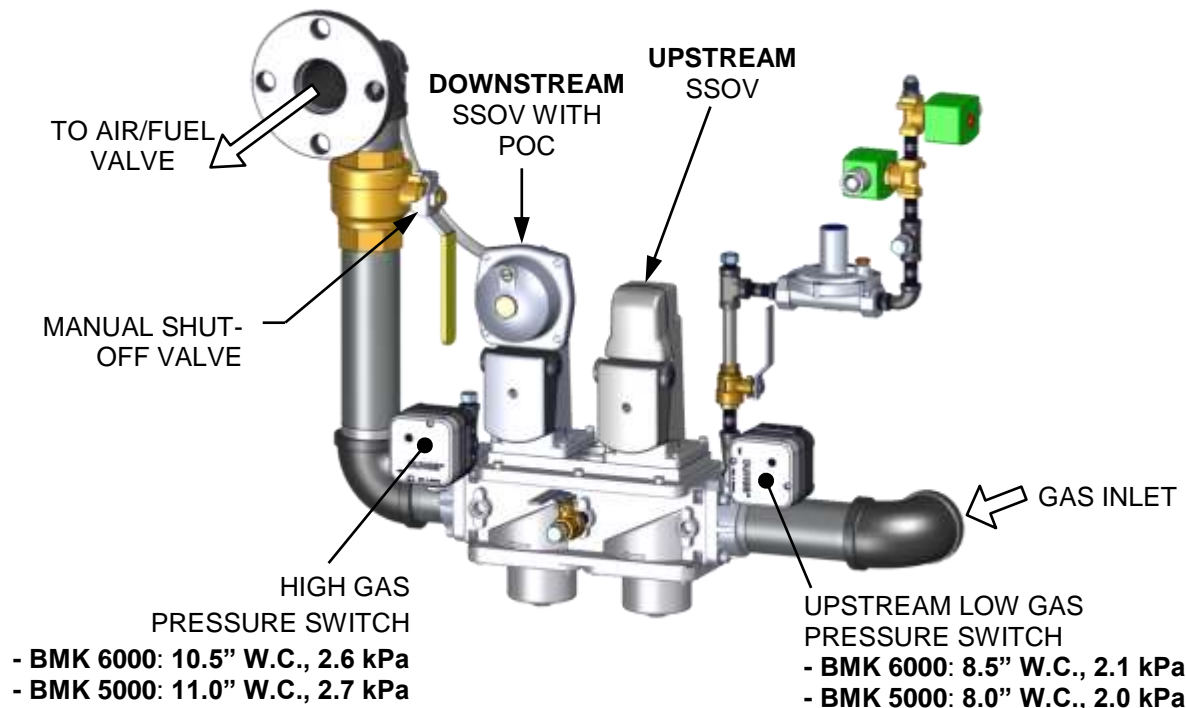

Figure 3-1: SSOV Location
2. The unit checks to ensure that the Proof of Closure (POC) switch in the downstream Safety Shut-Off Valve (SSOV) is closed. See Figure 3-1 for SSOV location.